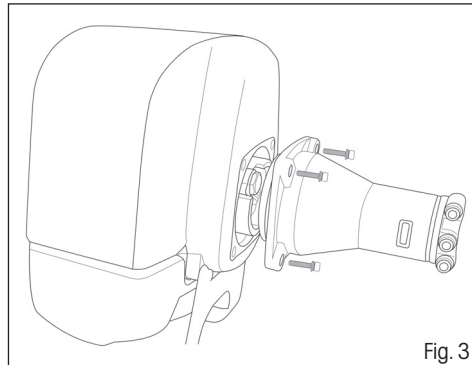

Fig. 3
- ❁ Using the four included screws, attach the engine of the brush cutter to the shaft (see fig. 3).